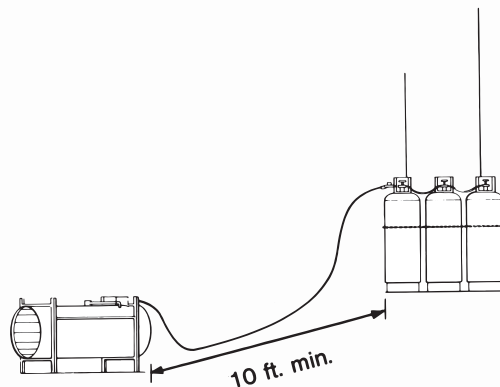

Figure 32-7: Typical Manifold Set-Up
- If cylinders must be manifolded, use no more than three 100-pound cylinders (Figure 32-7). If other heaters with manifolded cylinders are to be operated in the same area, they must be at least fifty feet away or be separated by a firewall.